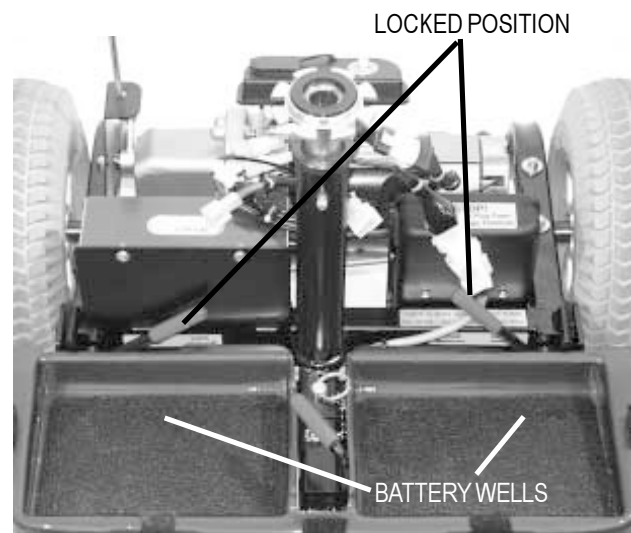

FIGURE 19. FRAME CAM LOCKING LEVERS
6. Place the cam locks in the locked position. See figure 19.